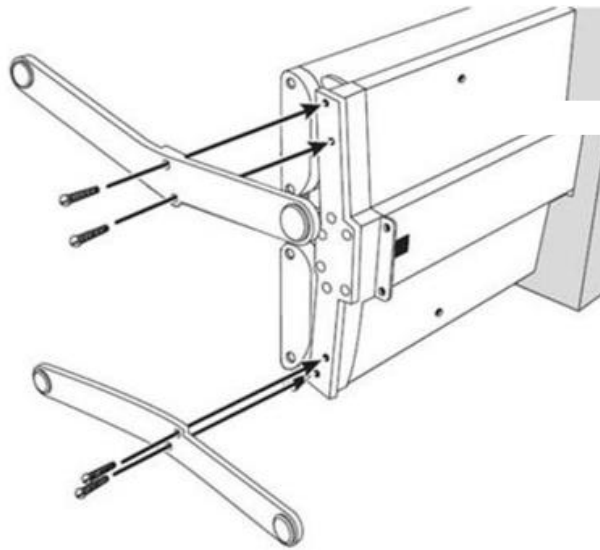

Figure 3 Feet Installation
3. The screws to attach the feet are pre-inserted in the bottom of the unit at the factory – remove the top and bottom foam shock absorbers to locate the end of the device that has screws protruding (Units with doors: screws protrude from metal bracket); this is the bottom of the device. Using a #3 Phillips screwdriver, remove the screws, then position the first foot so that its “longer” side is toward the front (the lamp side of the device – see **Figure 3**) and the side of the foot with the rubber pads is towards the floor. Mount the feet using the screws that you removed from the bottom of the device. Repeat the process for the second foot. Do not overtighten screws.